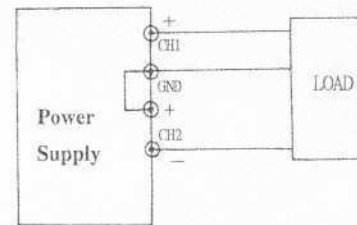

Fig. 5-4 Positive and Negative Supply
- F. If the chassis or common of the equipment being powered is separated from both the positive and negative polarity power inputs, the output of the CH2 (negative) supply tracking the output of the CH1 (positive) supply, the configuration as shown in Fig. 5-4.